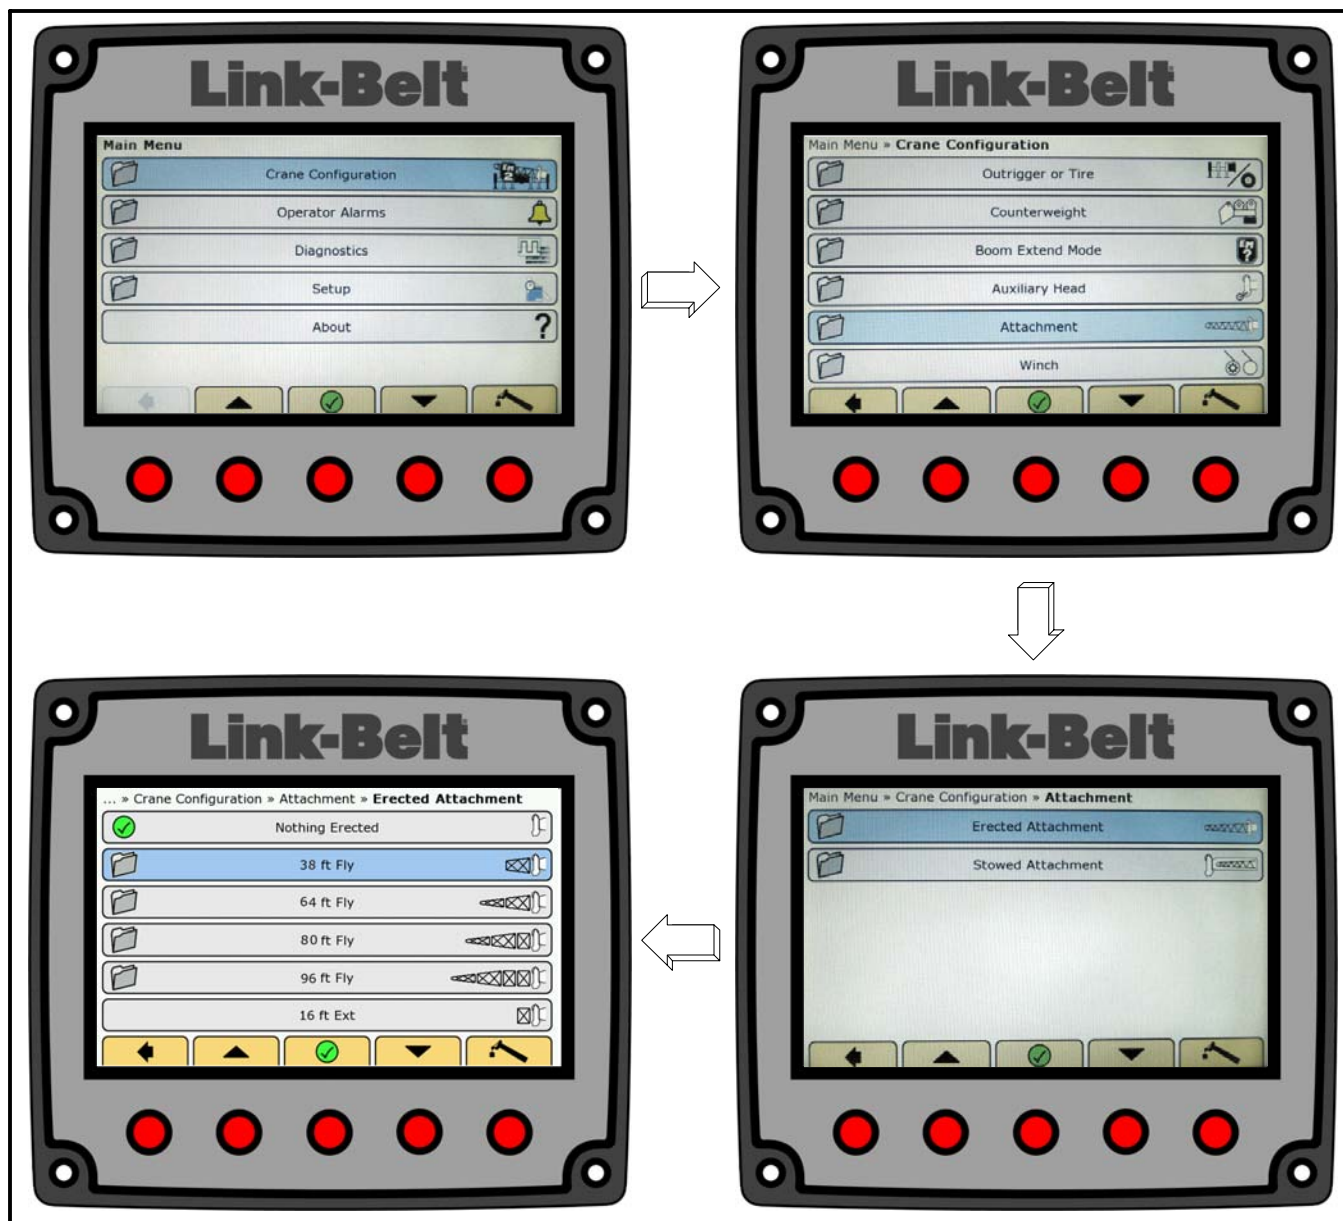

Figure 1–73
15. On the Crane Configuration menu, scroll to Attachment, and press the OK/Enter button . Refer to Figure 1–73.